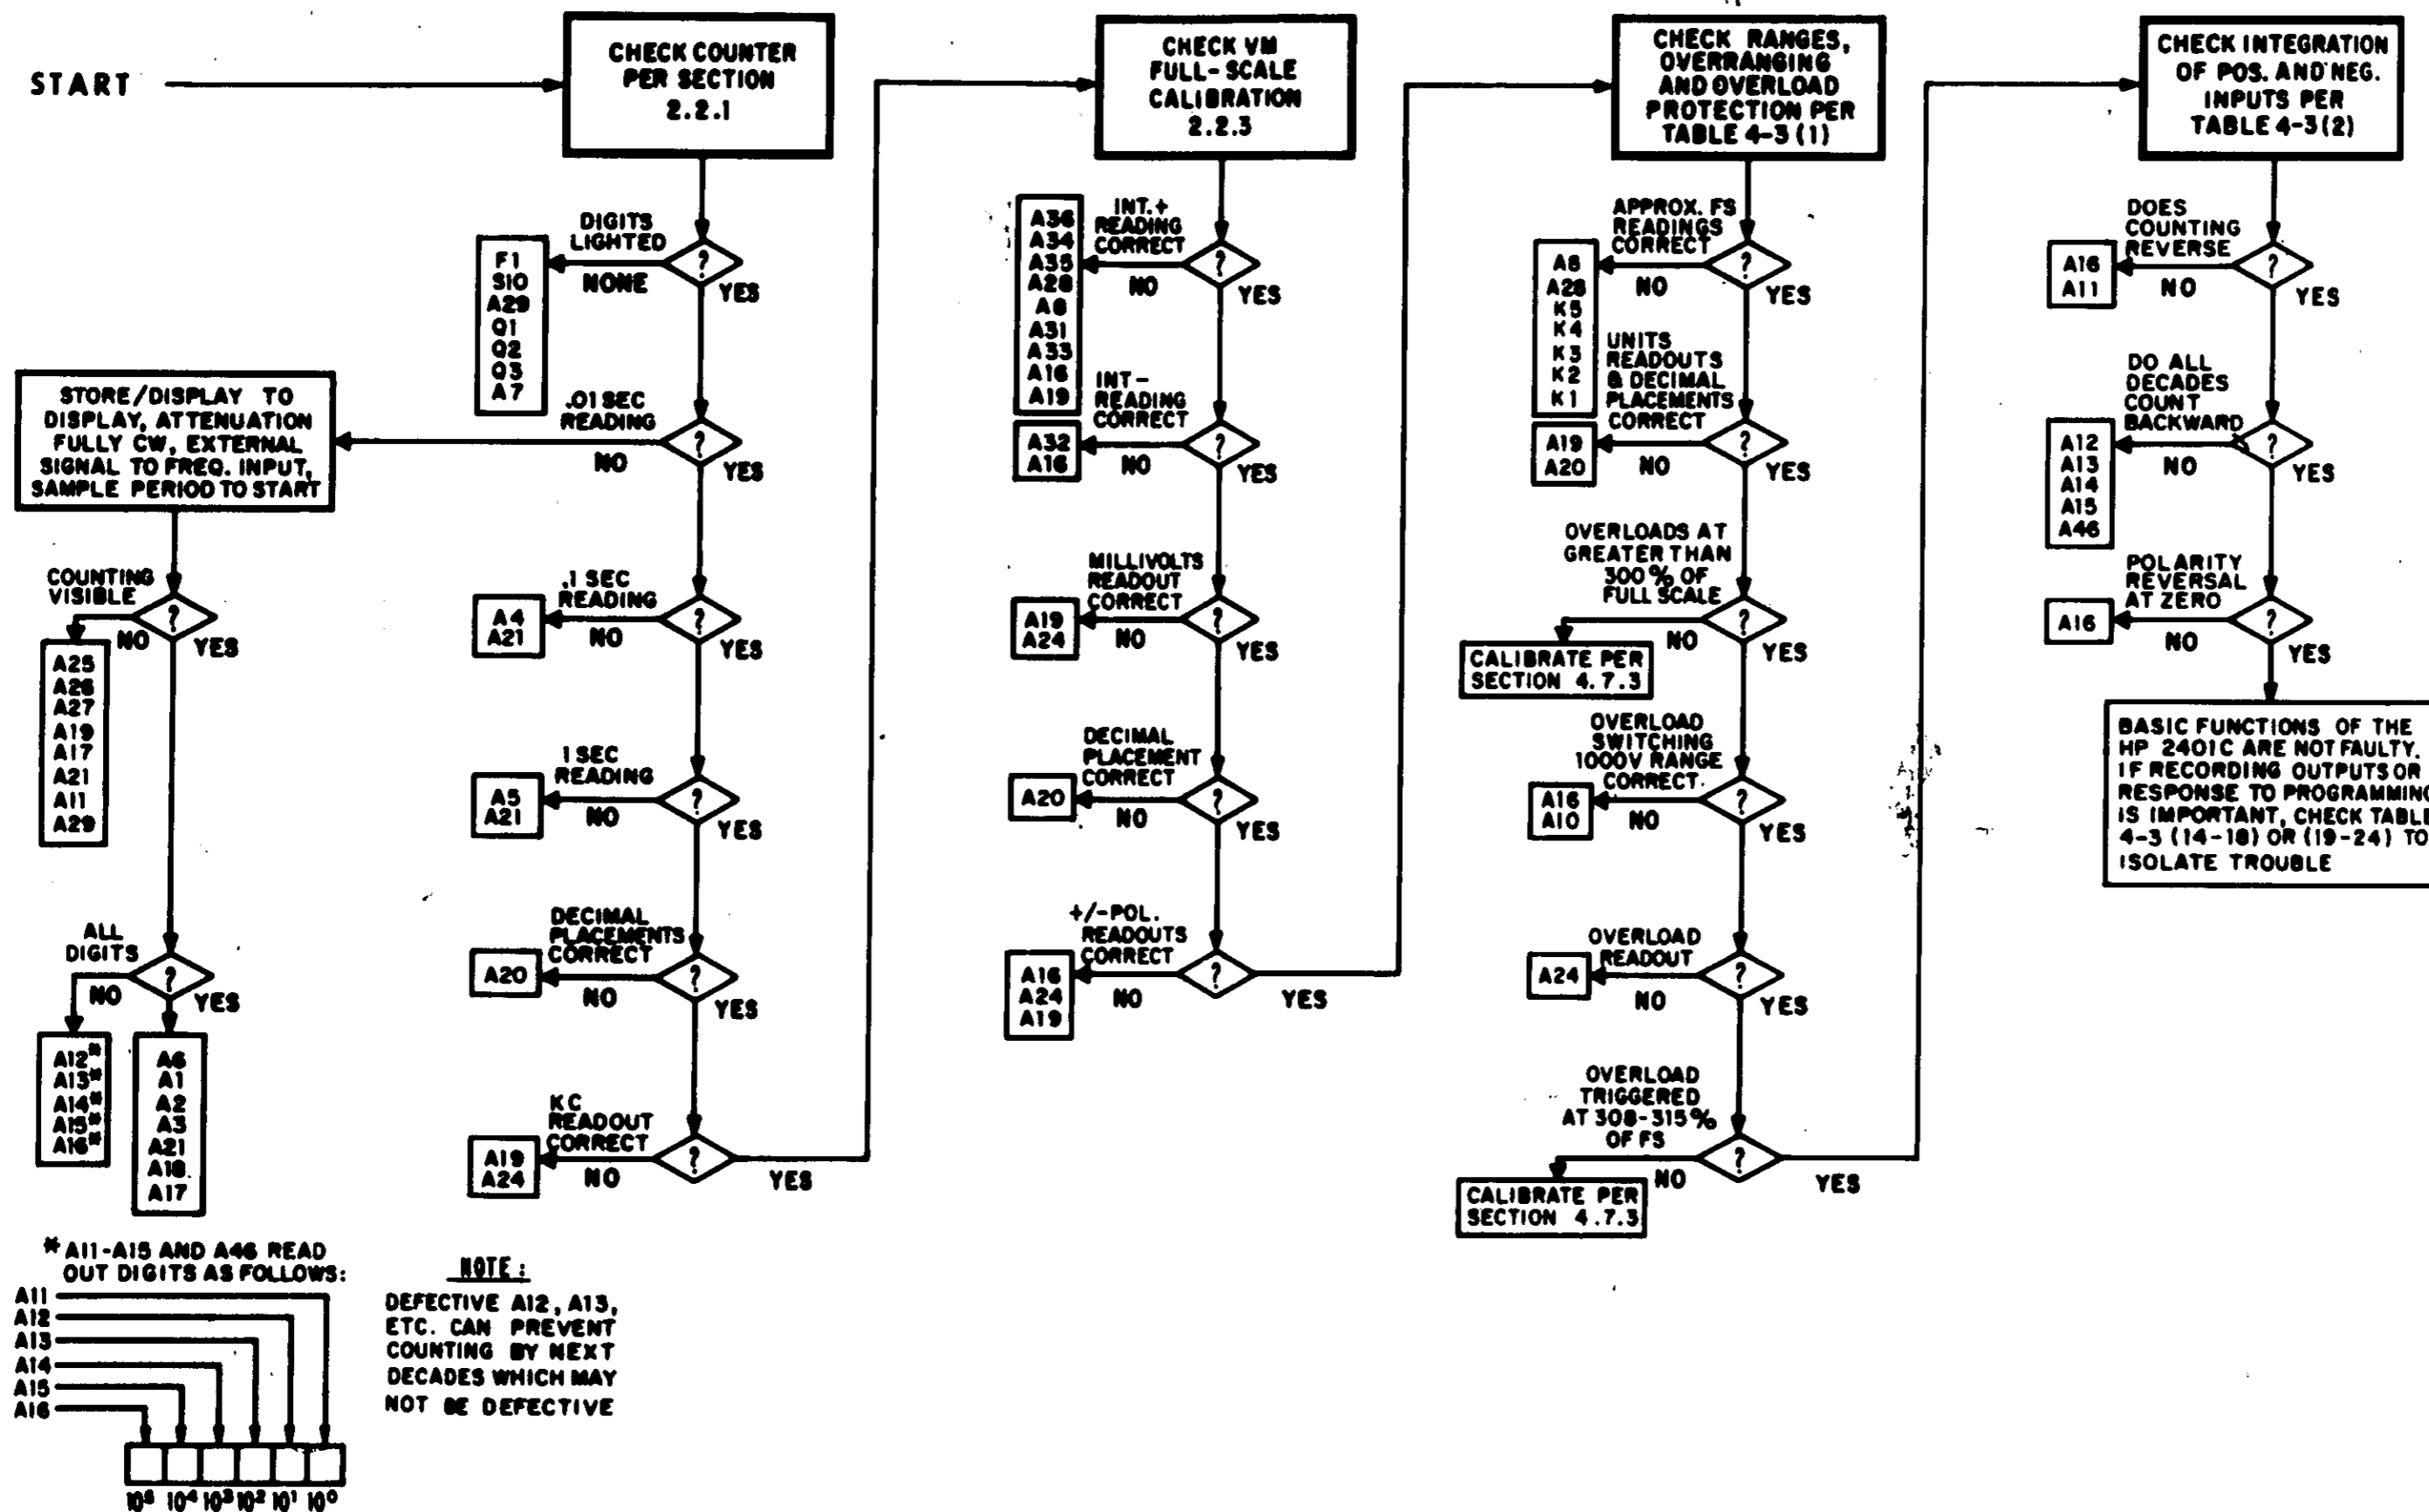

Figure 4-2. Troubleshooting
When trouble is suspected it can often be isolated rapidly to a specific assembly or group of assemblies by performing a series of brief checks, such as those diagrammed in Figure 4-2. From start, and before the instrument's cover is removed, the counter is checked, with various aspects of the check results diagrammed as diamond-shaped decision points. The decision point "yes" outputs form a main sequence that leads to and through the voltmeter (VM) full-scale calibration check, the range-overranging-overload check, and the integration check. "No" outputs point leftward toward checks off the main sequence or toward the component(s) that could cause an incorrect check result at the decision point.